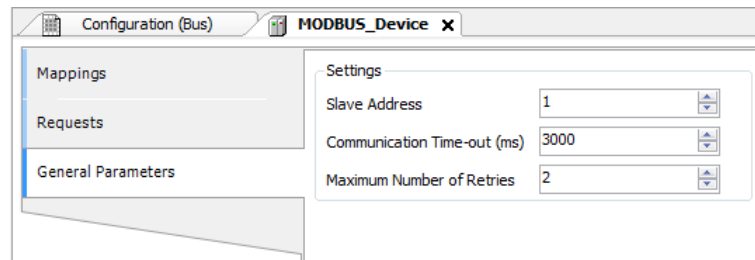

Figure 55: Device General Parameters Settings
- Add and configure devices via the General Parameters tab, defining the slave address, communication time-out and number of communication retries as can be seen in Figure 55.